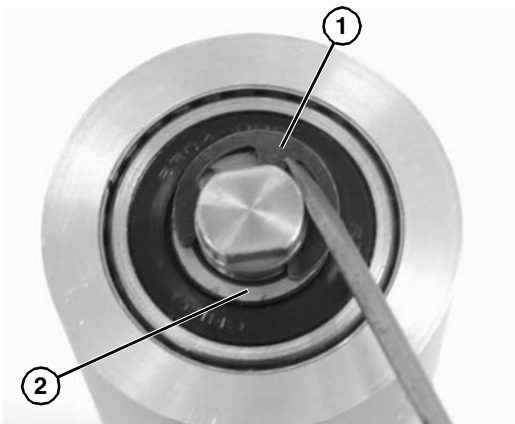

Figure 44
5. Remove the pulley shaft assembly: remove the clip ring (**Figure 44, item 1**) and washer (**Figure 44, item 2**) from one side of the pulley assembly.